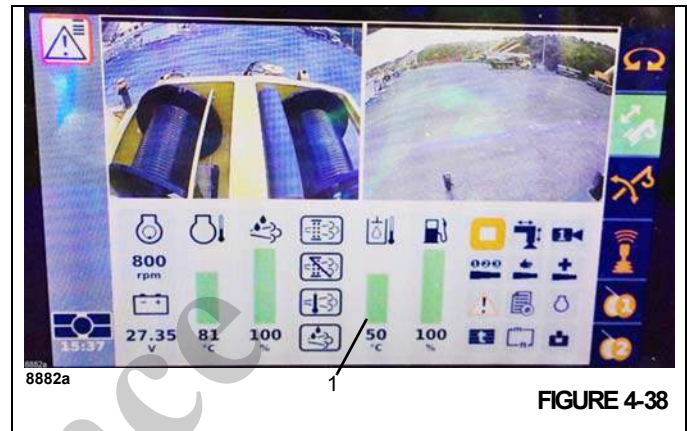

FIGURE 4-38
The hydraulic oil is preheated when the display (5), (Figure 4-38) shows a temperature of at least 10 °C (50 °F).